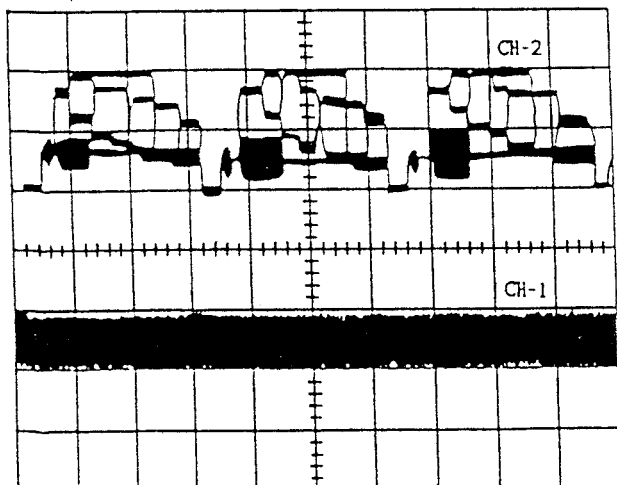

Fig. 58
- (1) Connect CH-1 of the oscilloscope to TP4002 and CH-2 to TP4201.
- (2) Adjust the VR4006 so that the waveform of CH-1 is straight as shown in Fig. 58.